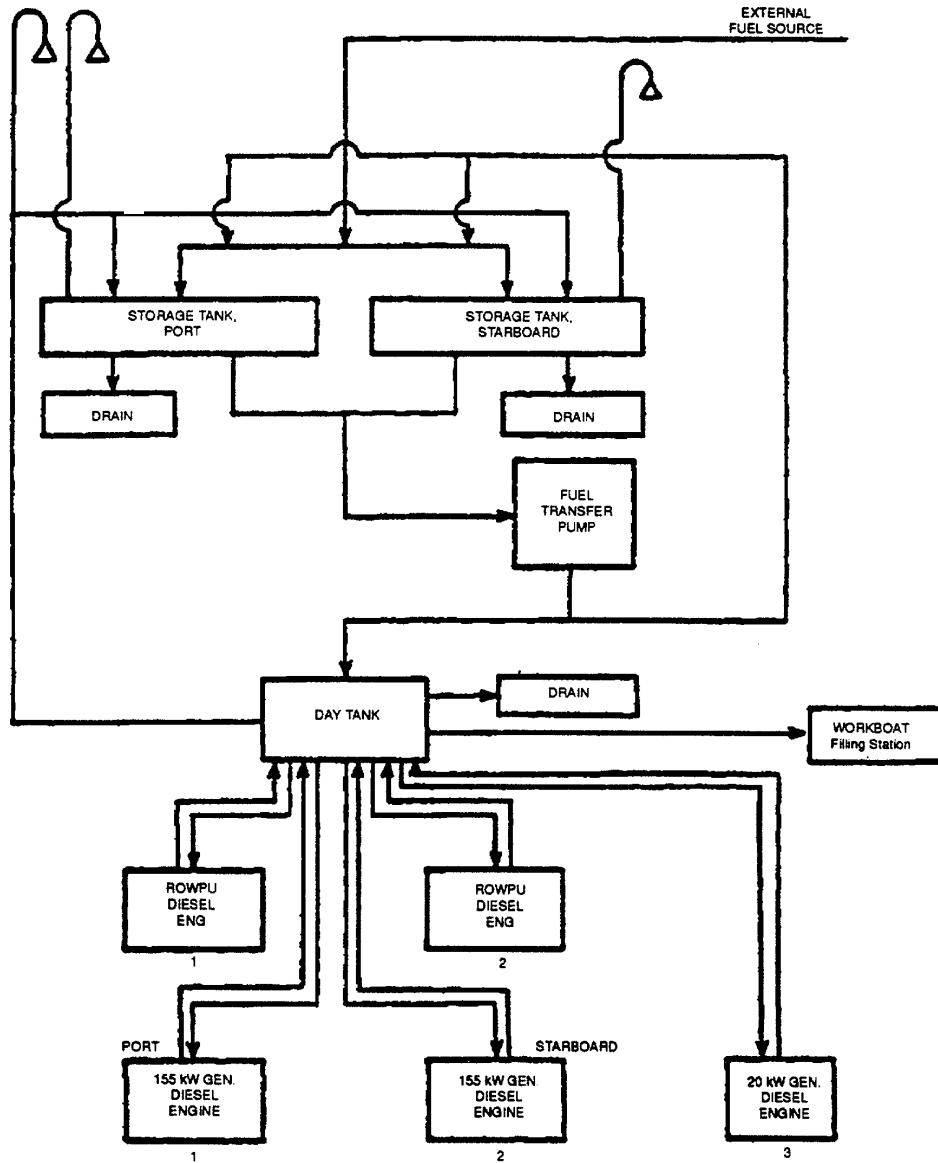

Figure 8-1. Fuel Oil System
**8-3 Fuel Oil System Description.** The fuel system on board the ROWPU barge provides fuel for two 155 kW diesel ship service generators, a ship auxiliary generator, and two ROWPU high pressure (HP) pump diesel engines, and a fueling station for the workboat. The system provides a centralized receiving, storage and distribution system for all barge operations. Refer to Figure 8-1.